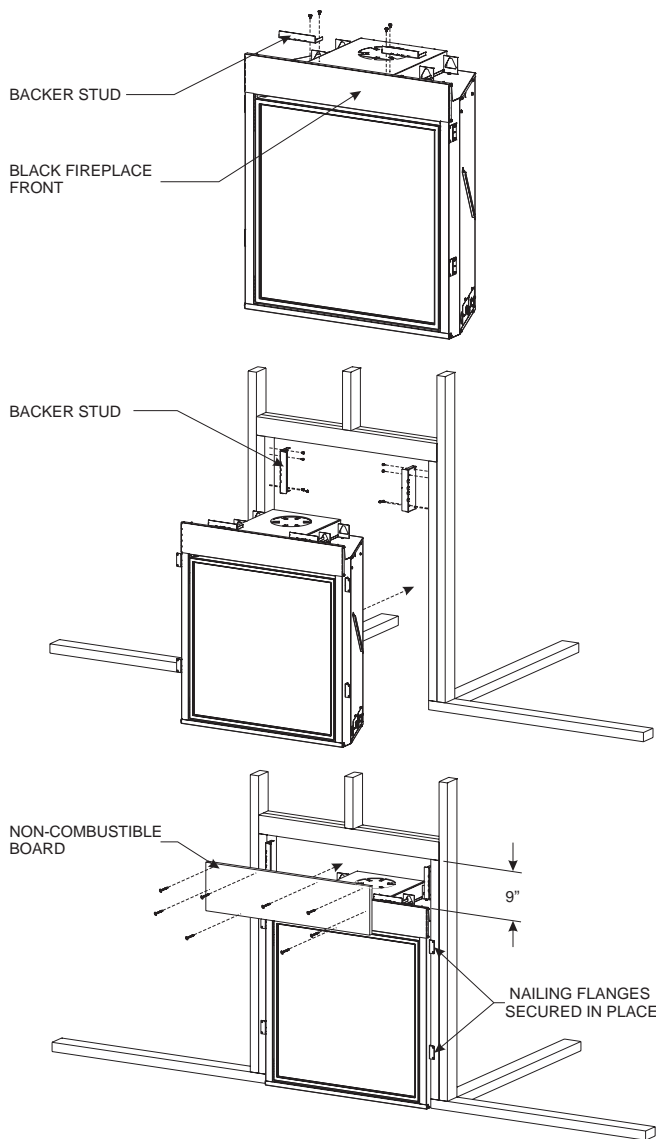

Figure 33
**NOTICE:** For finishing to top of fireplace, refer to **Figure 33**.
8. Attach the two backer studs to the firebox with four #10 x 1/2 Phillips screws (provided) as shown in **Figure 33**.
9. Attach the two backer studs to the vertical studs with four screws appropriate for installation (not provided) as shown **Figure 33**.
11. Mark non-combustible board for backer stud locations. Position the non-combustible board and secure with four #8 x 1 self-drilling drywall screws (provided) as shown in **Figure 33**. Four screws appropriate for installation (not provided) screw into the header. See **Figure 33**. To avoid damage to the non-combustible board, do not use more screws.